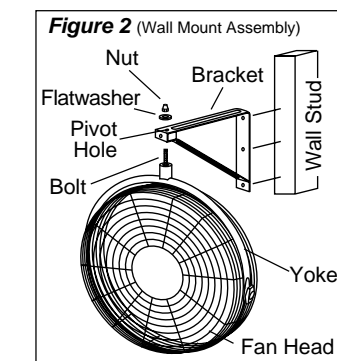

Figure 2 (Wall Mount Assembly)
Wall Mount Assembly (Figure 2)
3. Insert Bolt through Yoke, Bracket, Pivot Hole, Flatwasher, and into Locknut. (Figure 2) or (Figure 3)